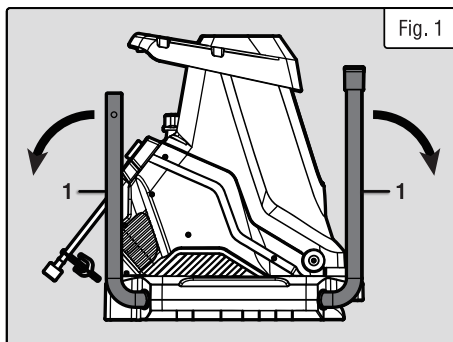

Fig. 1
1. Flip the leg brackets (Fig. 1 - 1) down as shown in Fig. 1.